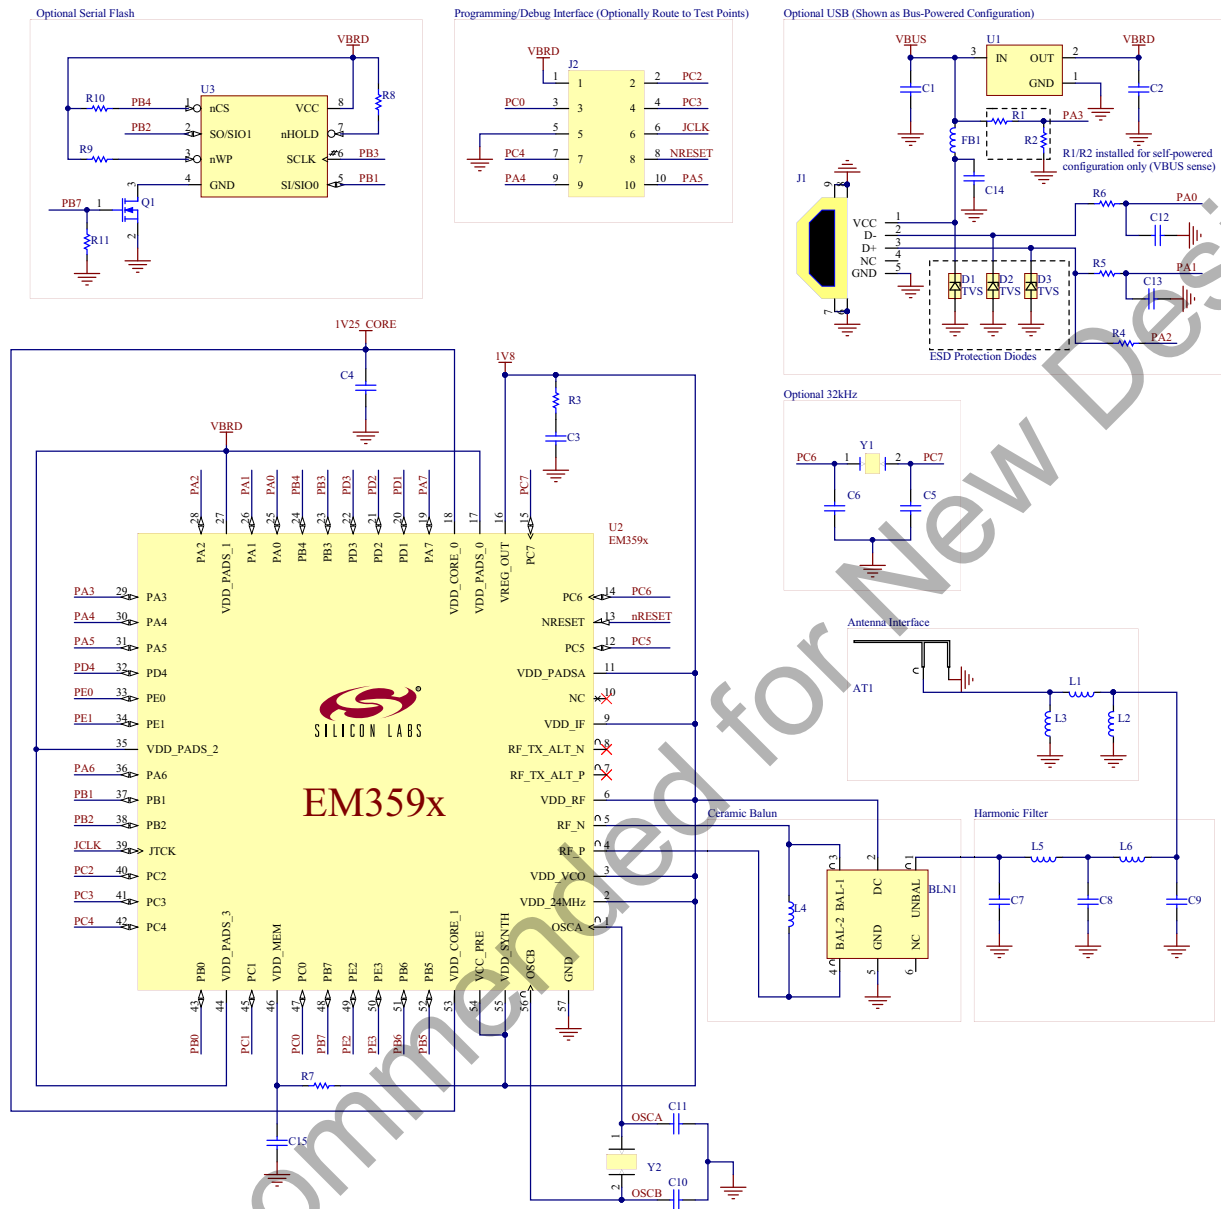

Figure 2.1. Typical Application Circuit
Figure 2.1 illustrates the typical application circuit.
**Note:** The circuit shown in Figure 2.1 is for example purposes only. For a complete reference design, please download one of the latest Ember Hardware Reference Designs from the Silicon Labs website ([www.silabs.com/zigbee-support](http://www.silabs.com/zigbee-support)).
Table 2.1. Bill of Materials for Figure 2.1